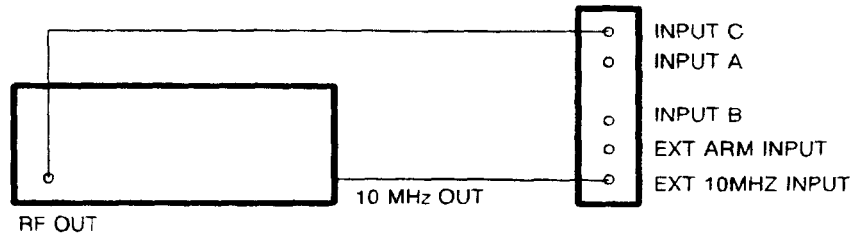

Figure 5-18. Input C Setup Configuration
1. Connect the signal generator to the counter as shown in Figure 5-18.